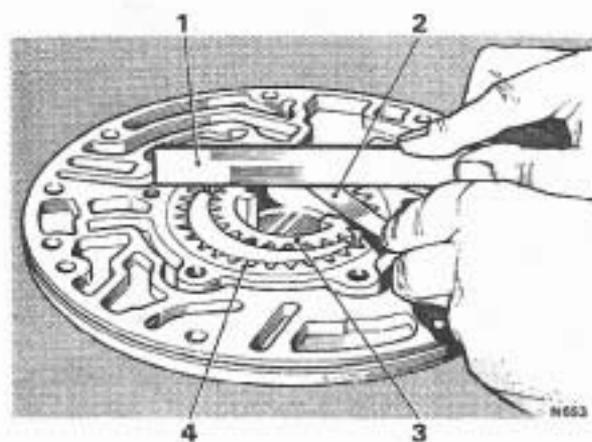

FIG. T228 CHECKING GEAR END CLEARANCE
2. Fit the gears into the pump body then check the end clearance as shown in Figure T228. The clearance should be between 0.0008 in. and 0.0035 in. (0,020 mm. and 0,099 mm.).